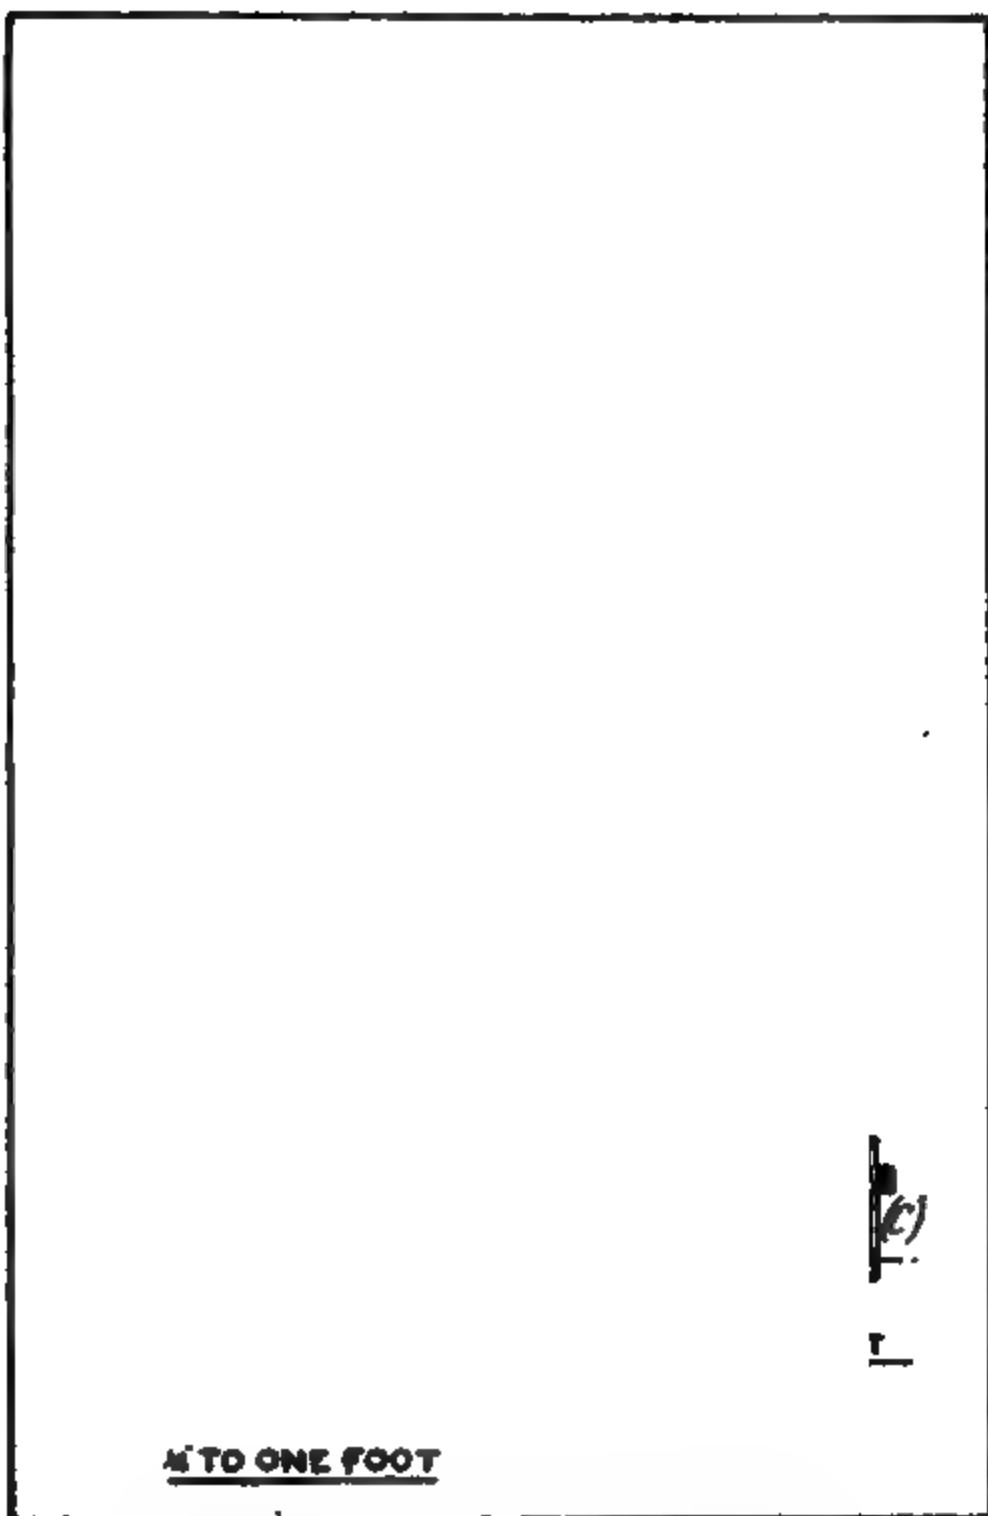

Fig. 65.—Details of windmill. (a) General view : tail turned to "off" position. (b) Details of tail. (c) Cross-piece.
*The Tower.*—By reference to Fig. 65, *a*, it will be seen that the tower is composed of four up-rights of 2-in. by 2-in. stuff, with 2-in. by 1-in. bracings and girts, the whole being fastened together with  $\frac{3}{4}$ -in. bolts, fitted with washers of ample size. Good, sound yellow deal will answer the purpose, but pitch-pine would be preferable where expense is not a serious consideration.
*The Tail.*—An enlarged view of the tail vane is given at Fig. 65, *b*. The arms are of  $1\frac{1}{2}$ -in. by  $1\frac{1}{2}$ -in. stuff, tapered to the outer end. A fine saw cut is run up to a distance of 2 ft. 6 in. from the outer end to receive the vane, which may be of galvanized sheet steel of about 20 S.W.G. The cross-piece, shown at Fig. 65, *c*, is to act as a stop when the vane is pulled parallel to the wheel. The inner end of the vane is stiffened by a  $1\frac{1}{2}$ -in. by  $\frac{1}{2}$ -in. strip at each side where the steel wire cord and the spring are attached. The last may be a large-sized bell spring, but some experimenting will be needed to obtain the requisite adjustment.
diameter ( $x$  in Fig. 65,  $a$ ), which revolves with the turn-table, but can be slid up or down. The easiest plan is to cut a hole through the axis of the cylinder to fit the (square) pump rod. If a groove be now cut in the circumference of the cylinder, and two pieces of iron be bent into the shape of eccentric straps and placed in the groove, cords can be taken from the two bolts which unite the straps. These two cords should be joined to another which is taken to a reel or a lever,  $y$  (Fig. 65,  $a$ ), at the base of the tower. In this way the position of the tail vane can be regulated from a stationary point.
If the pump be not more than 12 ft. below the crank pin, one guide will suffice. As the pump rod must revolve with the head, it will require to be thickened up to a circular section where it passes through the guide. The latter (shown at *z* in Fig. 65, *a*) should be made in halves and screwed or bolted to a bar running across the tower. The best lubricant for wooden rubbing surfaces is plumbago and soft soap.